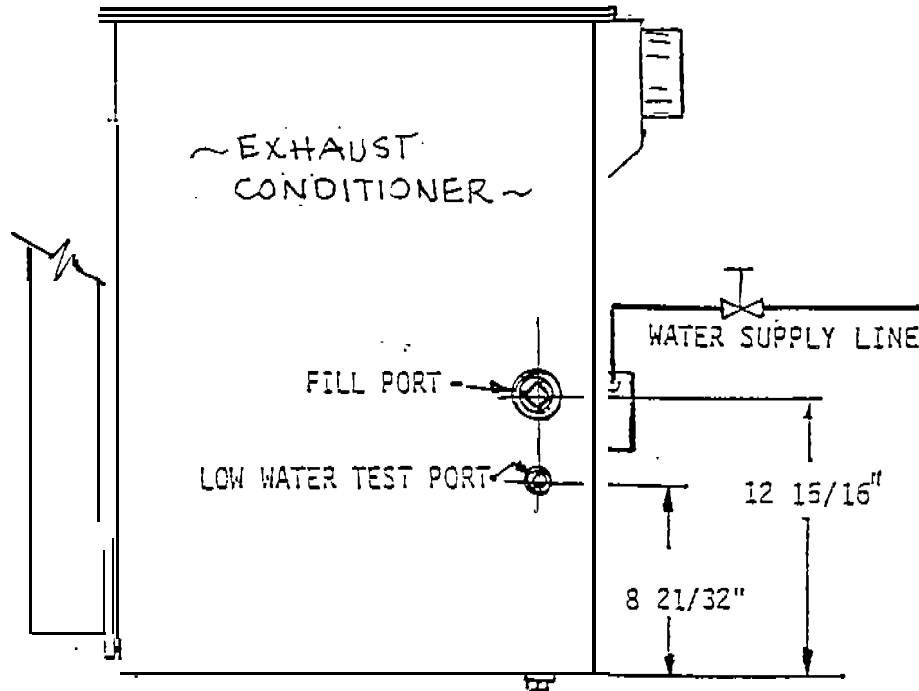

Figure 16. Location of Low Water Test& Fill Ports,
To check for proper low water shut-down function, use the Test Port shown in Figure 16. The center of this port is located 8-21/32 inches above the outside bottom of the Exhaust Conditioner.
- (WEEKLY) 36      ( ) Replenish the exhaust conditioner water through the fill port located 12-15/16 inches above the outside bottom of the conditioner tank, as shown in Figure 16.